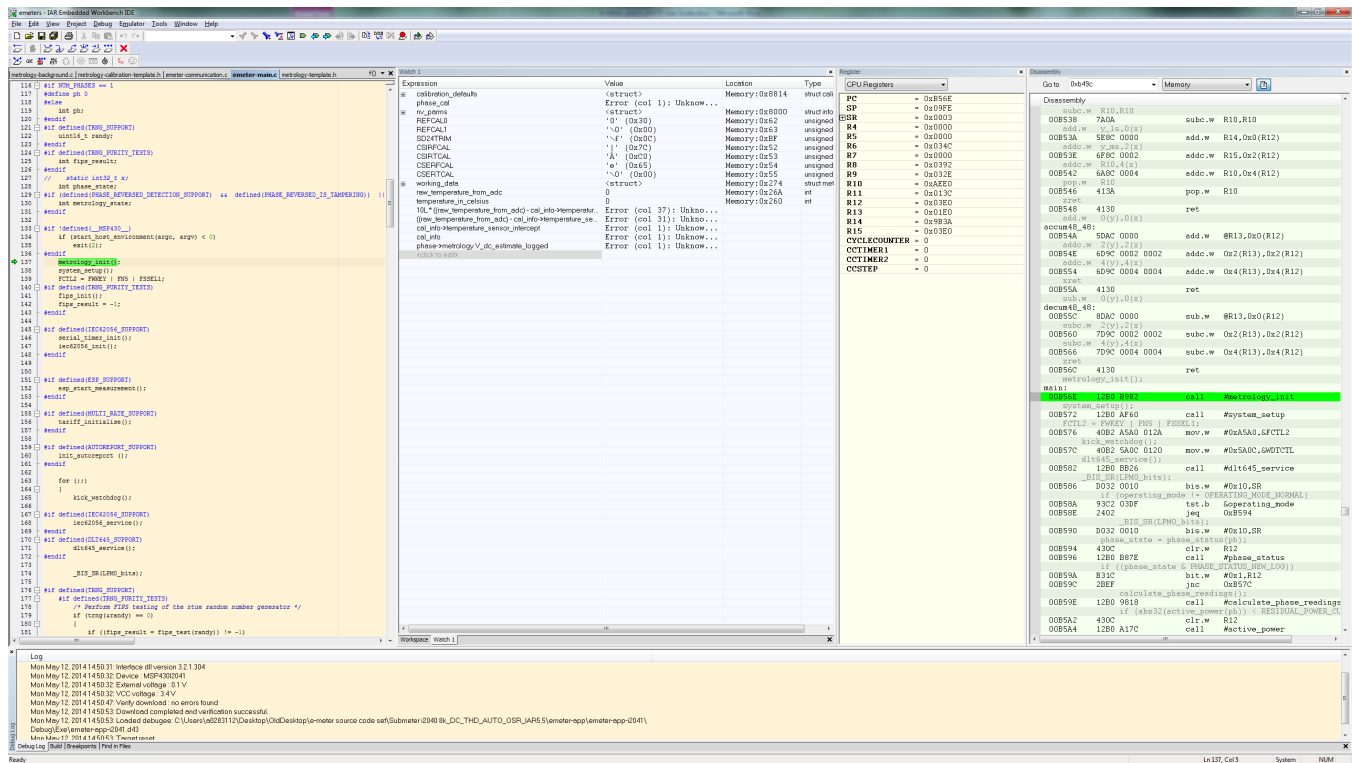
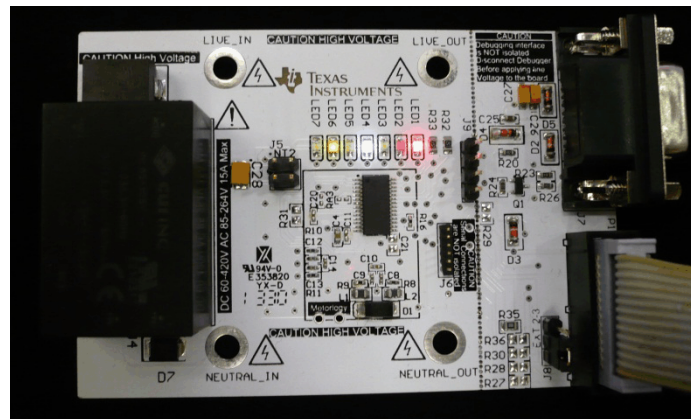

Figure A-9. Debugger Screen
Figure A-10. EVM Running
10. After downloading is completed and succeed Figure A-9 appears. Click **Go** to start application running (see Figure A-10).